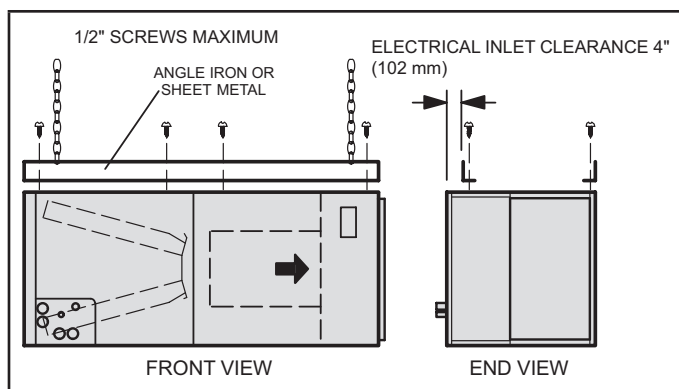

FIGURE 10. Suspending Horizontal Unit
- 2 - If the unit is suspended, the entire length of the cabinet must be supported. If you use a chain or strap, use a piece of angle iron or sheet metal attached to the unit (either above or below) to support the length of the cabinet. Use securing screws no longer than 1/2" to avoid damaging the coil or filter as illustrated in figure 10. Use sheet metal screws to connect the return and supply air plenums as required.
- 12 - If suspending the unit, it must be supported along the entire length of the cabinet. If using chain or strap, use a piece of angle iron or sheet metal attached to the unit (either above or below) so that the full length of the cabinet is supported. Use securing screws no longer than 1/2" to avoid damage to coil or filter, as illustrated in figure 10. Connect return and supply air plenums as required using sheet metal screws.